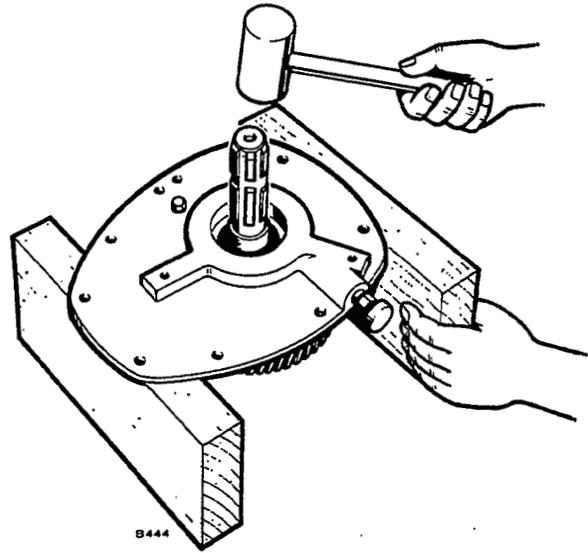

FIGURE 51. REMOVAL OF PTO SHAFT FROM GEAR CASE PLATE
- Block up gear case plate as shown in Figure 51 and tap PTO shaft out of plate.